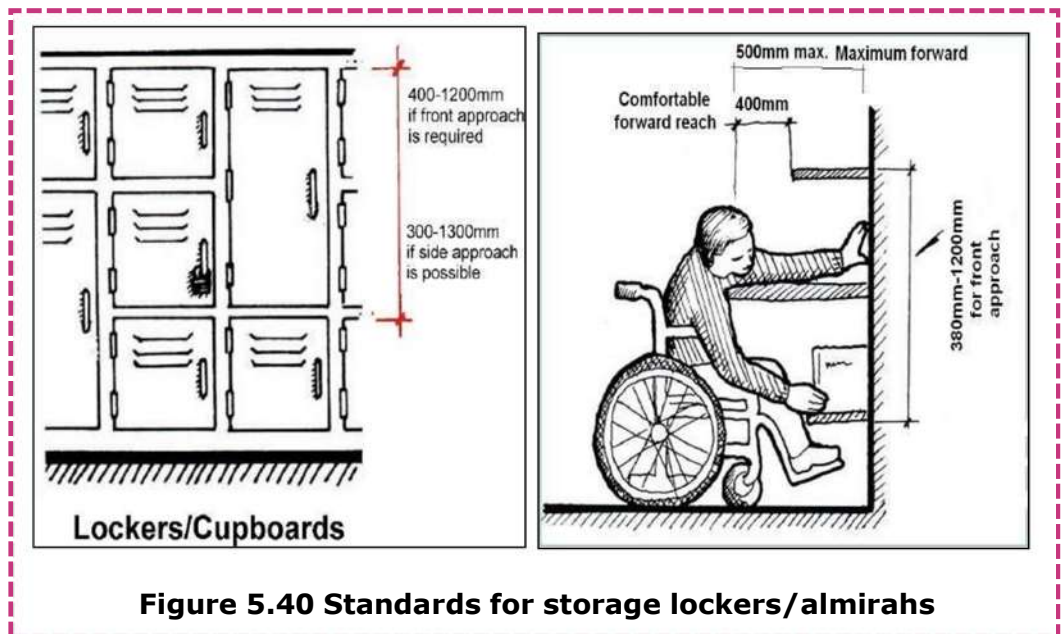

Figure 5.40 Standards for storage lockers/almirahs
- In the rooms/laboratory/activity area, storage space of various kinds (shelves, cupboards and drawers) should be 340mm-1200mm from the floor level, allowing front approach and 230-1300mm for side approach (**Figure 5.40**)